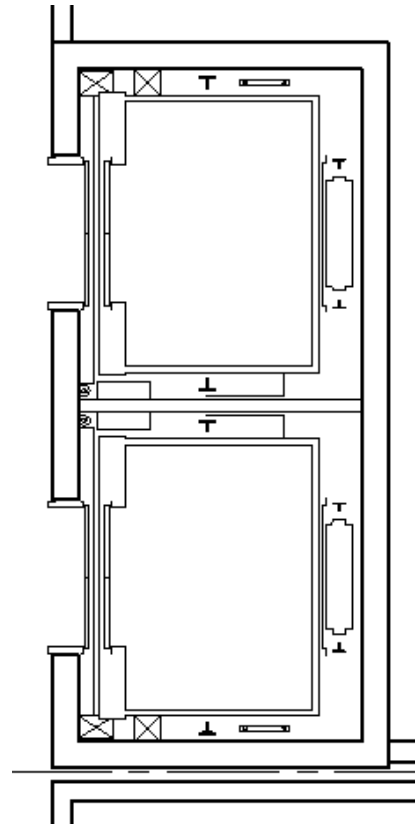

FIGURE 4-3.11 Elevator added to plan
26. Use the **Mirror** command to copy a mirror image of the elevator car to the opposite side of the shaft (Figure 4-3.11).
27. **Trim** the wall lines and place the jamb lines on **A-wall** layer (not the elevator frame, just the line that closes off the wall); see Figure 4-3.11.
Your elevator should now look like Figure 4-3.11. Several details are drawn, such as the guide rail, the cab door, the floor level door and even the pit ladder.
Many architectural firms have a copy of the major elevator manufacturers' technical catalogs which provide enough information to manually draw everything in Figure 4-3.11. But it is not difficult to see how the Internet can save time when AutoCAD content is available; not all manufacturers provide AutoCAD drawings of their products.